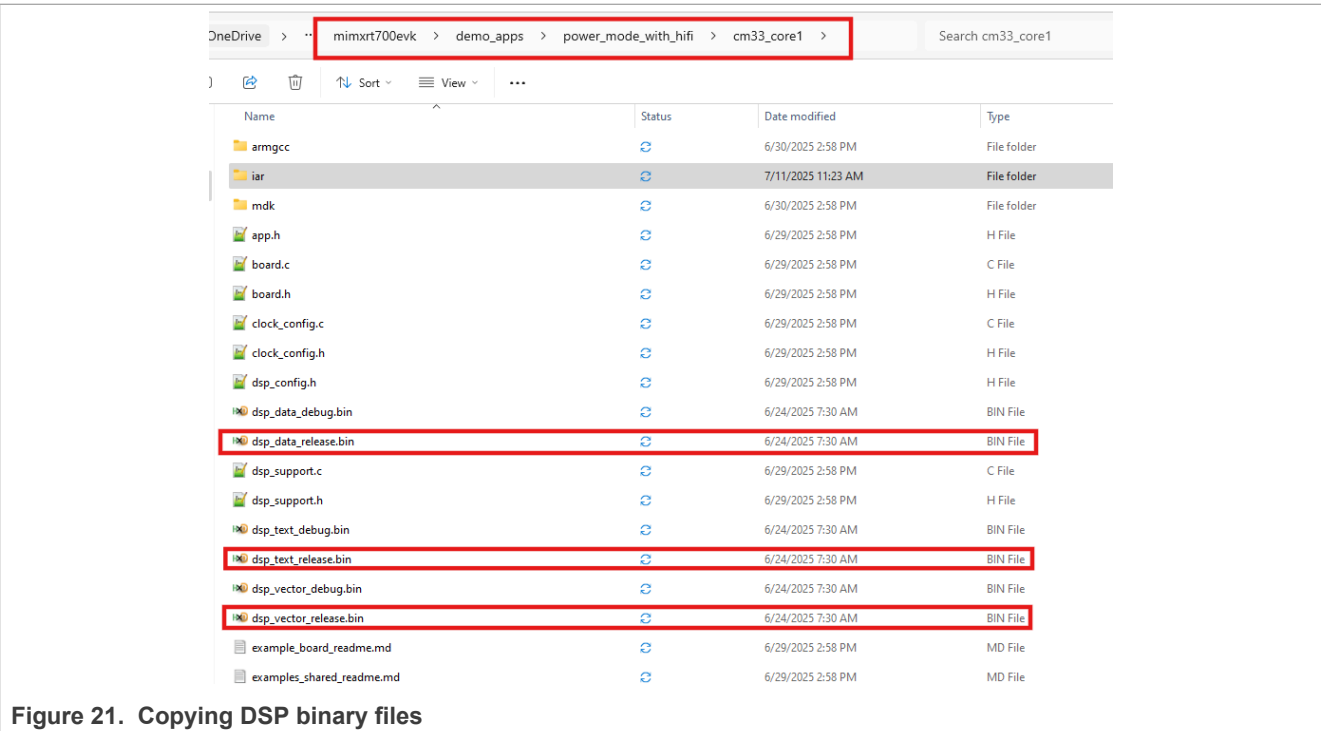

Figure 21. Copying DSP binary files
5. Copy the following DSP binary files into the power_mode_with_hifi project folder, as shown in Figure 21: